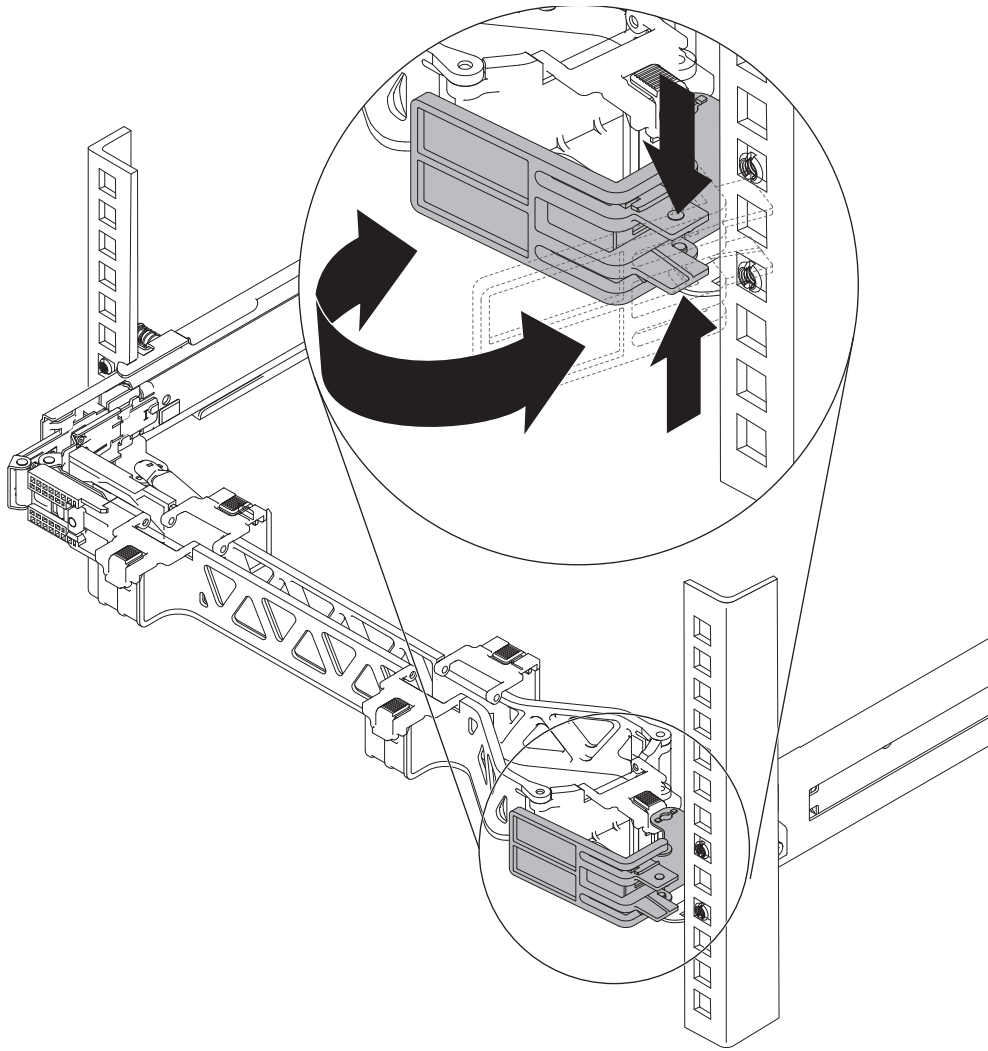

Figure 10. Opening the cable-management support stop
5. Open the cable-management support stop, as shown in Figure 10 on page 19.